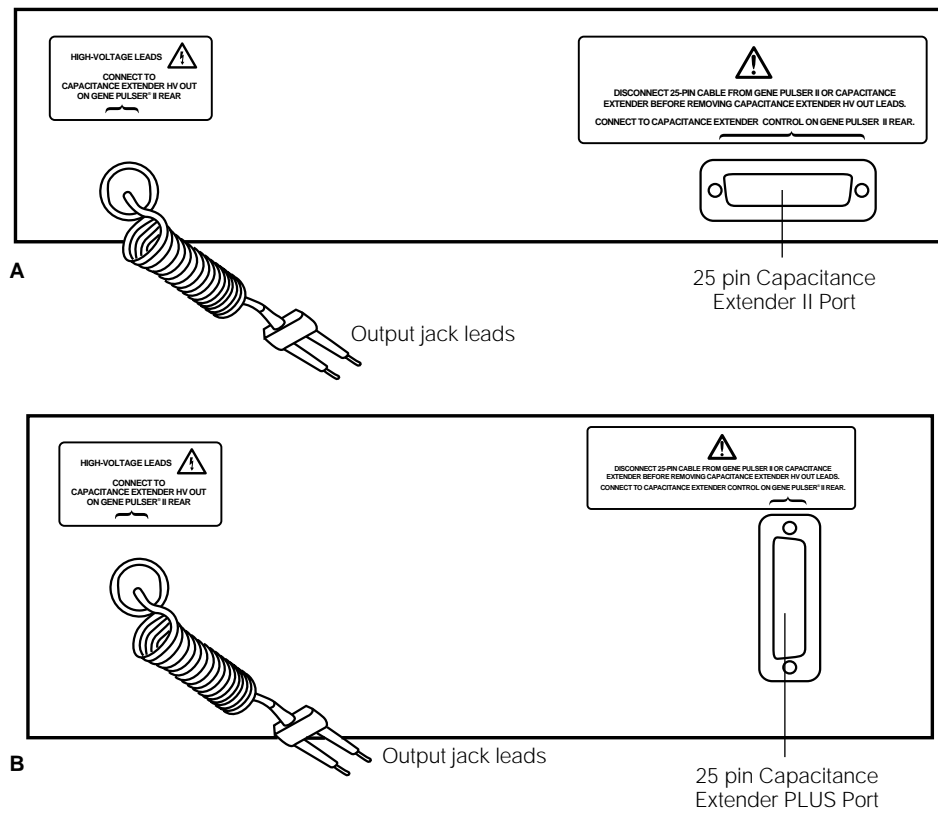

Fig. 2.5. Back panel of (A) Capacitance Extender II or (B) Capacitance Extender PLUS module.
3. Complete the connection of the Capacitance Extender II (or PLUS) module to the Gene Pulser II unit using the supplied RS 232 cable (25 pin). (Figure 2.5 and 2.6).